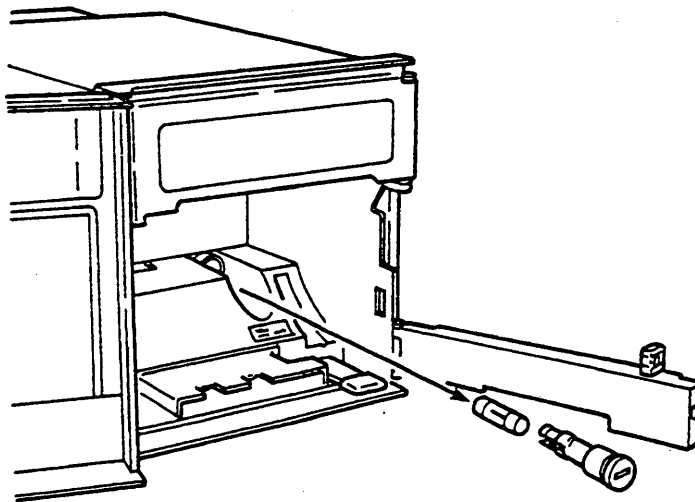

Figure 9-2. Fuse Replacement
2. The fuse is now visible in the right lower front of the plate. (Refer to Figure 9-2.) Turn the knob of the fuse holder counterclockwise, and the holder will slide out with the fuse.